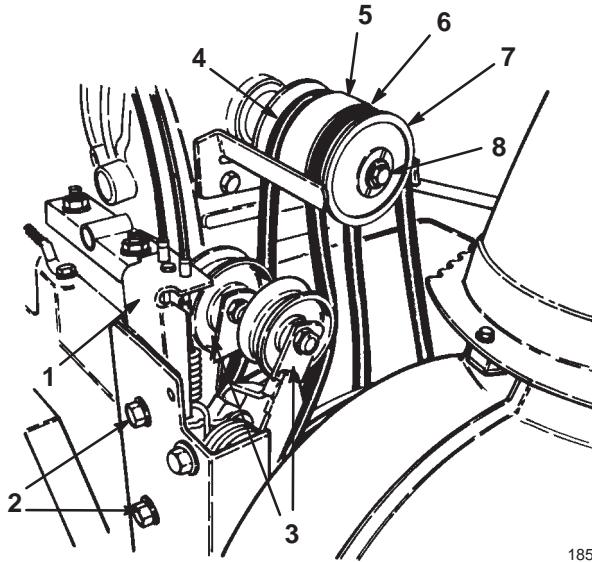

Figure 31
If the auger/impeller drive belt or the traction drive belt (Fig. 31) becomes worn, oil-soaked, or otherwise damaged, replace the belt.
5. Remove the two-flange bolts that secure the idler pulley assembly to the engine frame and remove idler pulley assembly (Fig. 31).
6. Remove the bolt and the lock washer that secure the half sheave to the front of the pulley assembly (Fig. 31).
7. Slide the half sheave and auger/impeller drive belt off the crankshaft and remove the belt (Fig. 31).
8. If you need to replace the traction drive belt, slide the middle pulley section and the belt off the crankshaft, and remove the belt from the pulley (Fig. 31).
10. If you replace the traction drive belt, install it around the traction drive and the middle pulley section, and slide the middle pulley section onto the crankshaft (Fig. 31).
11. Install the traction drive belt on the idler pulley (Fig. 31).
12. Install the auger/impeller drive belt around the half sheave, and slide the half sheave onto the crankshaft (Fig. 31).
14. Install the idler pulley assembly on the engine frame and secure it with the two flange-head bolts (Fig. 31).